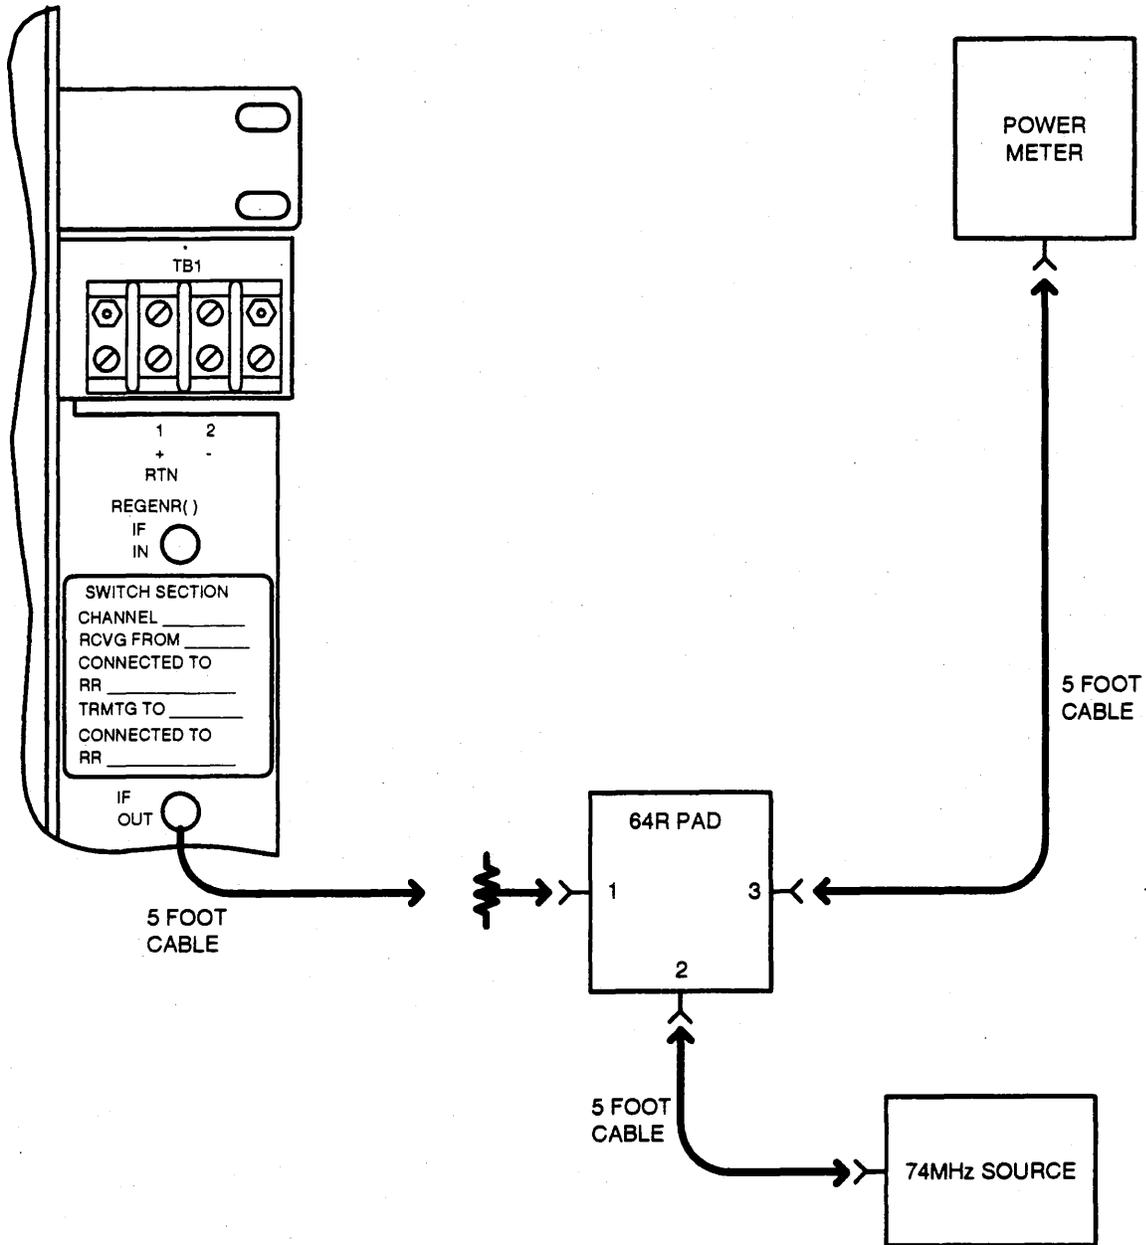

Figure 2-“I” (Interference) Power Level Setting Connections
8. Establish the test connections shown in Figure 2.